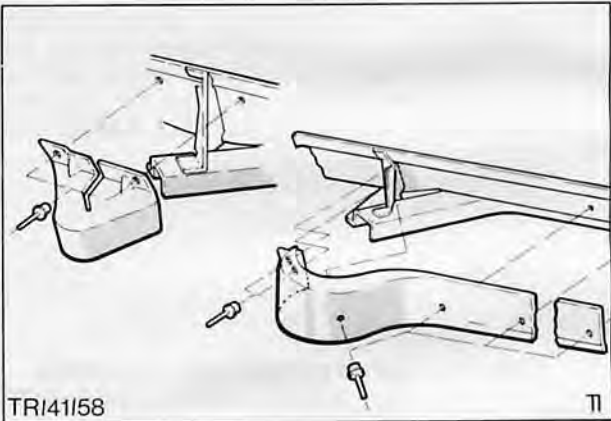

Fig. 42. Upper guide rail shroud and cap
2. Drill out 'pop' rivets securing upper guide rail shroud and cap and detach shroud and cap from rail, Fig. 42.
13. Position upper guide rail shroud and cap and secure with 'pop' rivets, Fig. 42.